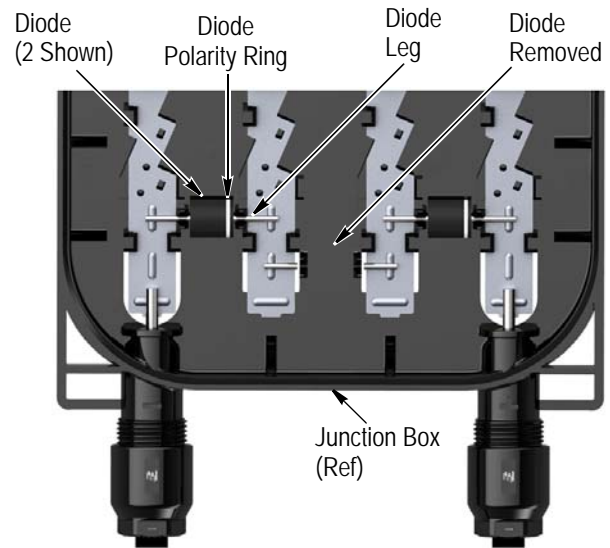

Figure 2
1. Locate the diode(s) to be removed from the junction box. Take note of the orientation of the diode polarity ring of each diode for proper orientation of the replacement diode(s) during installation. Refer to Figure 2.